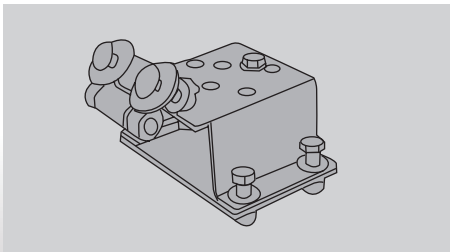

Figure 4
- ✓ 2 x Stainless Steel Hinge mounted on bracket, As indicated in Figure 4.